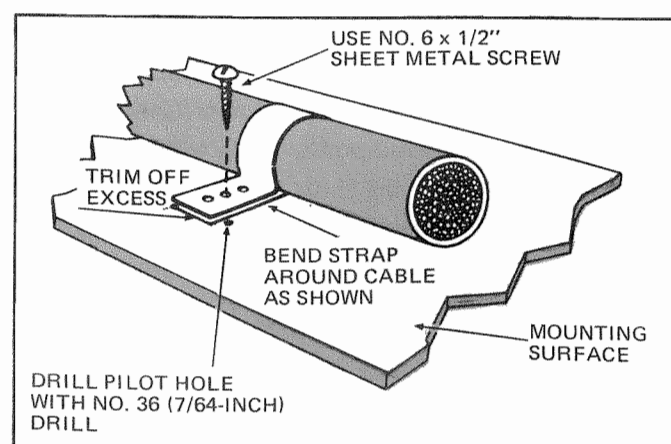

Figure 7. Installing Cable Straps
- Use the 3-inch cable straps and No. 6 self-tapping screws provided in the Basic Mounting Hardware to secure the cables neatly in place (See Figure 7).